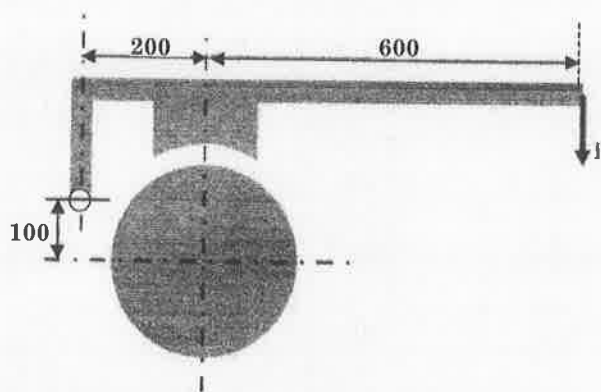

Fig. 15 (b)
- (b) The brake system, as shown in Fig. 15(b) provides a braking torque of 360 N-m. The diameter of the brake drum is 300 mm. The coefficient of friction is 0.3. Find
- The force (P) to be applied at the end of the lever for the clockwise and counterclockwise rotation of the brake drum; and (7)
- The location of the pivot or fulcrum to make the brake self-locking for the clockwise rotation of the brake drum. (6)